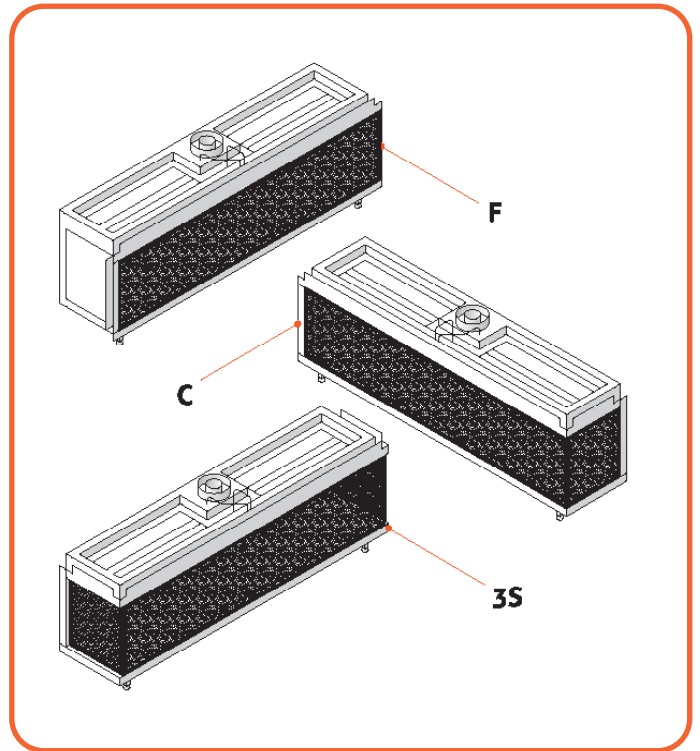
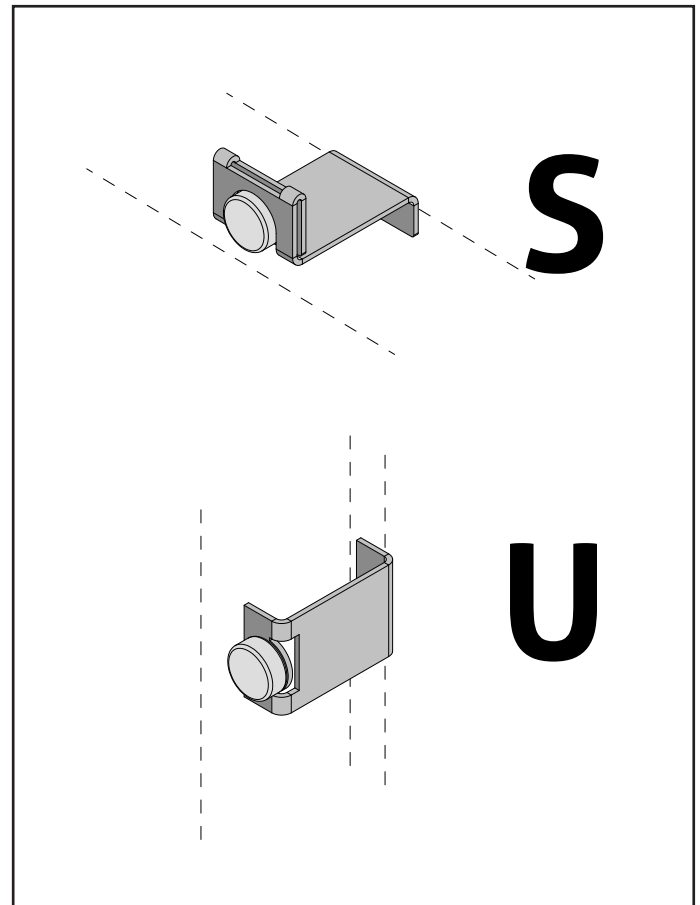

Figure 10.1 - Isometric Illustration
Figure 10.2 - S and U tabs
9.1 Vertical Terminations - clearances and requirements (Figure 10.1 & Figure 10.2)